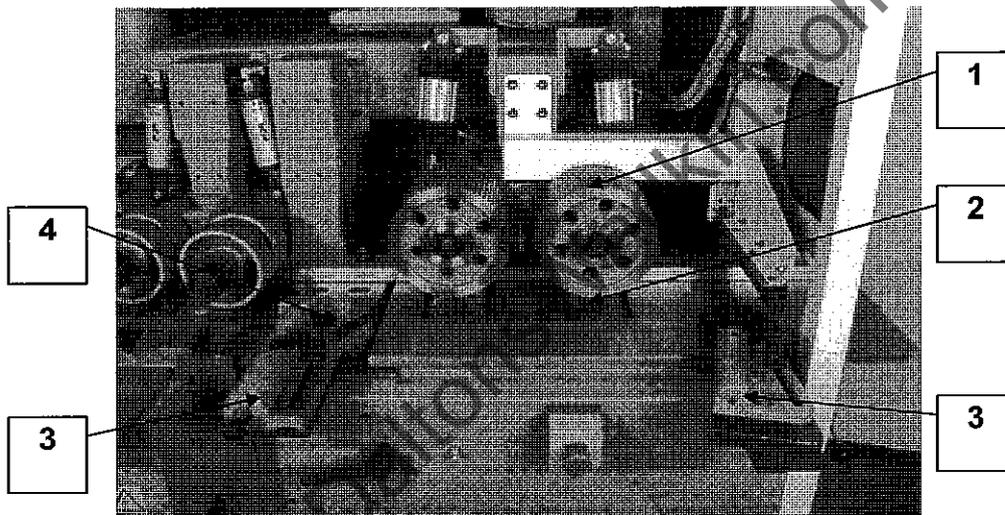

Figure 8.4
8.4 Push Feed System (Figure 8.4)